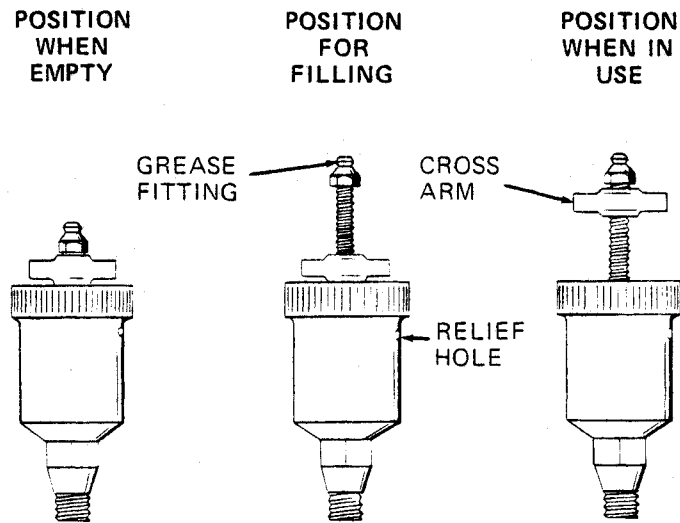

Figure 4. Automatic Lubricating Grease Cup
Before removing the seal assembly, turn the cross arm on the seal grease cup (9) clockwise until it rests against the cover (see figure 4). This will prevent the grease in the cup from escaping after the seal is removed.
Before starting the pump, fill the grease cup through the grease fitting with a good grade of No. 2 pressure gun grease until grease escapes from the relief hole. Turn the grease cup arm counterclockwise until it is at the top of the stem; this will release the spring to apply grease to the seal (see figure 4).